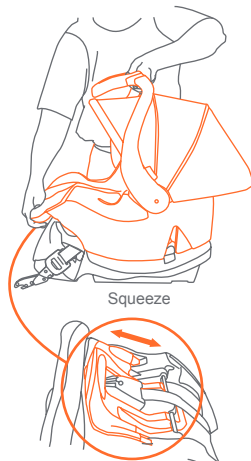

Fig. 25-1
- To remove the car seat from the base, squeeze the Base Release handle, located below the foot end of the Safety Seat, to release the Safety Seat from the Base. Please see Fig. 25-1.